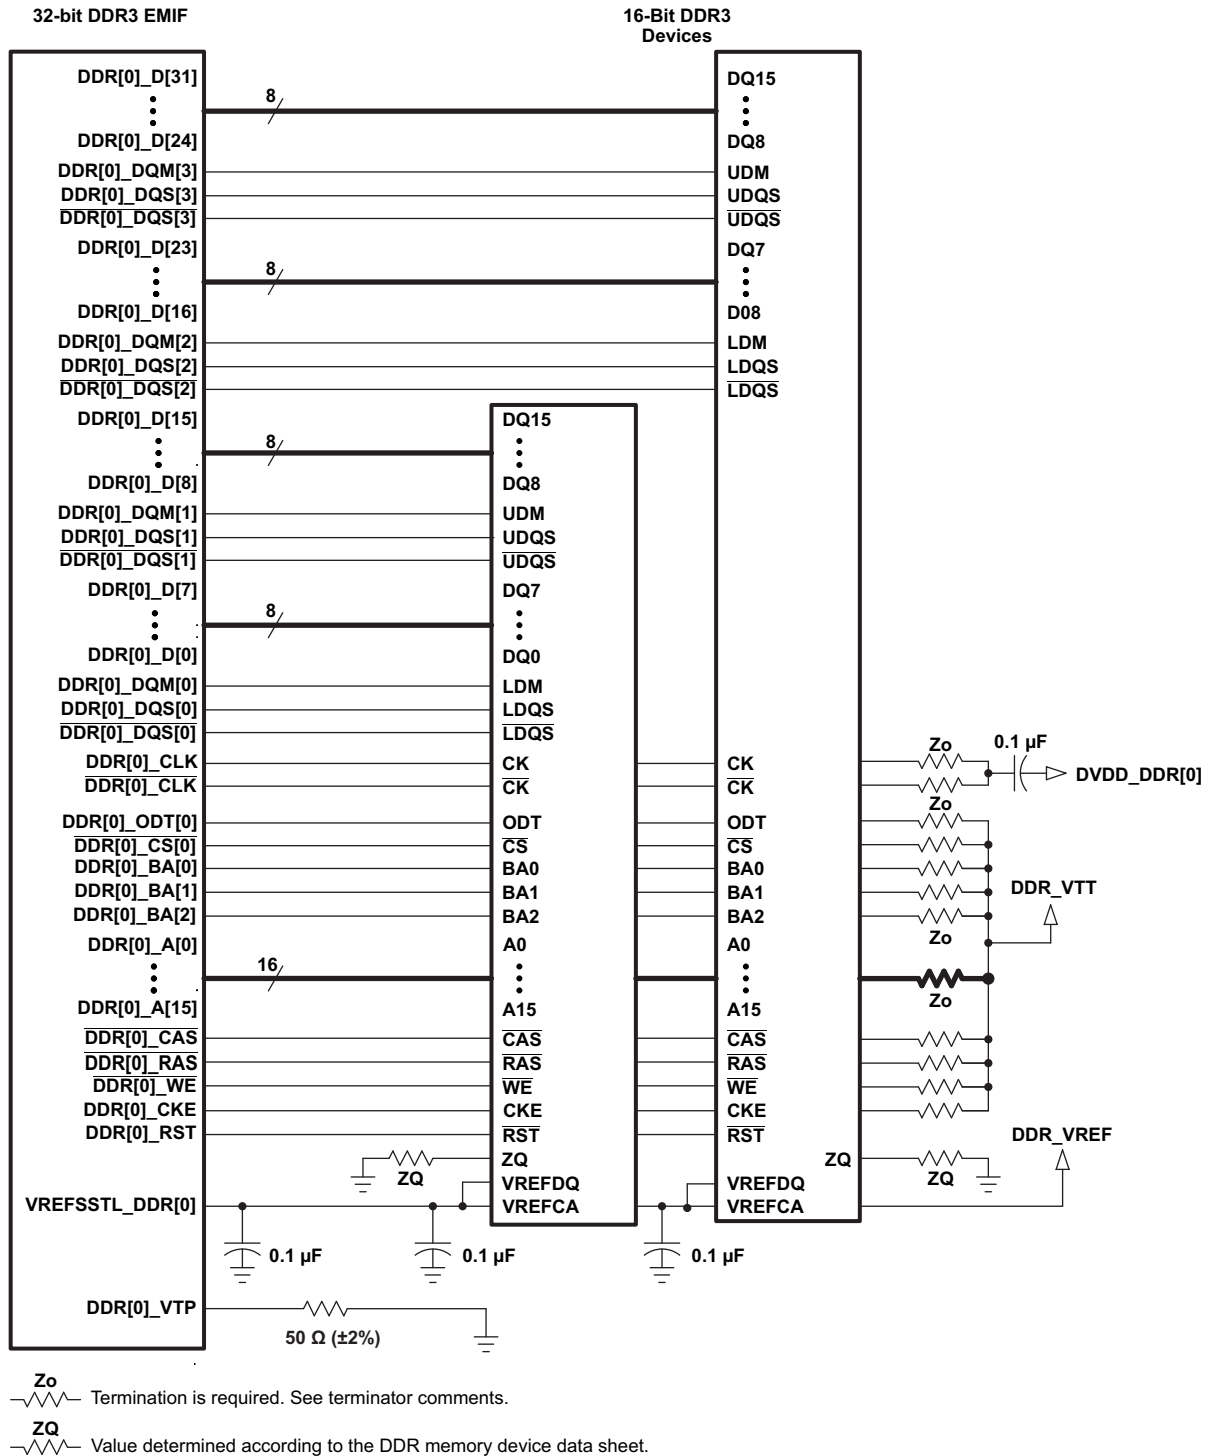
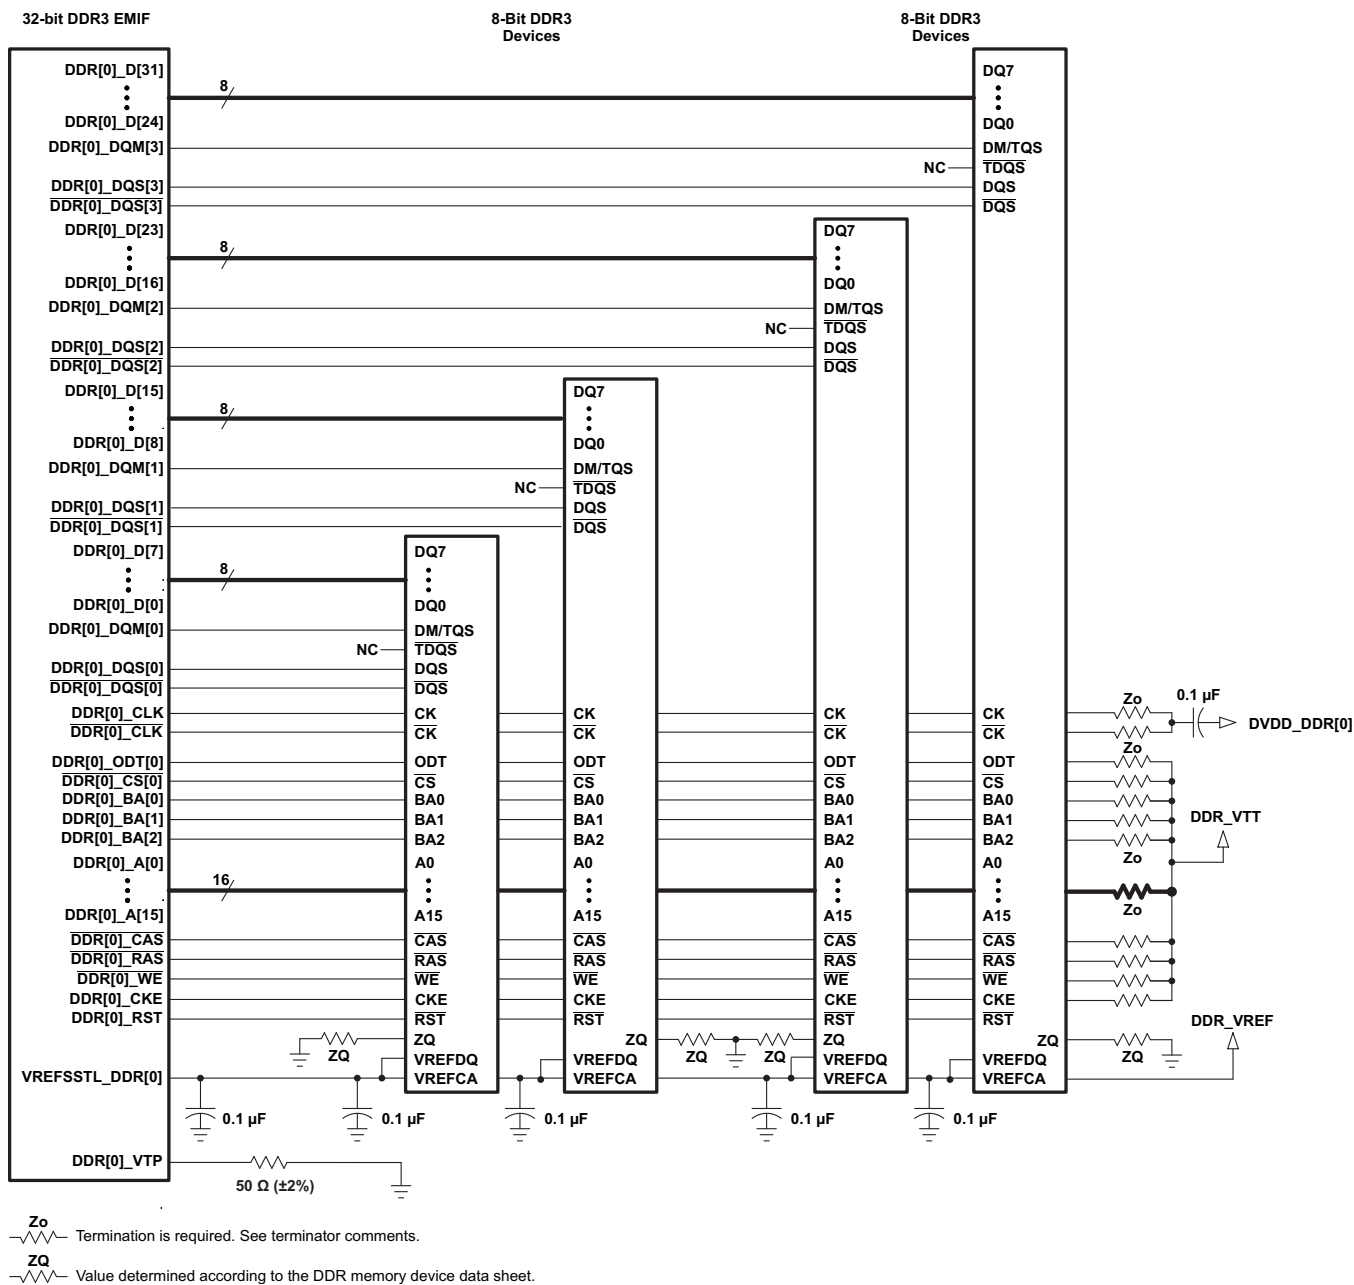

Figure 8-56. 32-Bit, One-Bank DDR3 Interface Schematic Using Two 16-Bit DDR3 Devices
Figure 8-57. 32-Bit, One-Bank DDR3 Interface Schematic Using Four 8-Bit DDR3 Devices
The DDR3 interface schematic varies, depending upon the width of the DDR3 devices used and the width of the bus used (16 or 32 bits). General connectivity is straightforward and very similar. 16-bit DDR devices look like two 8-bit devices. Figure 8-56 and Figure 8-57 show the schematic connections for 32-bit interfaces using x16 devices.
Note that the 16-bit wide interface schematic is practically identical to the 32-bit interface (see Figure 8-56 and Figure 8-57); only the high-word DDR memories are removed and the unused DQS inputs are tied off. The processor `DDR[0]_DQS[2]` and `DDR[0]_DQS[3]` pins should be pulled to the DDR supply via 1-kΩ resistors. Similarly, the `DDR[0]_DQS[2]` and `DDR[0]_DQS[3]` pins should be pulled to ground via 1-kΩ resistors.
(1) DDR3 speed grade depends on desired clock rate. Data rate is 2x the clock rate. For DDR3-800, the clock rate is 400 MHz.
(2) DDR3 devices with higher speed grades are supported; however, max clock rate will still be limited to 533 MHz as stated in Table 8-59 *Switching Characteristics Over Recommended Operating Conditions for DDR3 Memory Controller*.
(3) For valid DDR3 device configurations and device counts, see Section 8.13.3.3, Figure 8-56, and Figure 8-57.